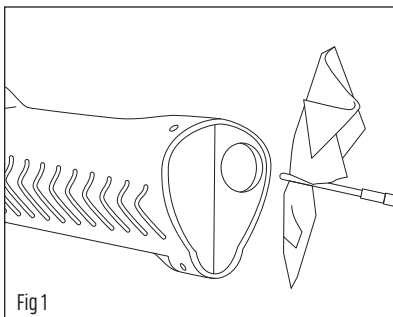

Fig 1
3. Using a damp swab, clean remaining powder out of magazine tube by gently inserting swab in a rotating motion. (Fig 1)